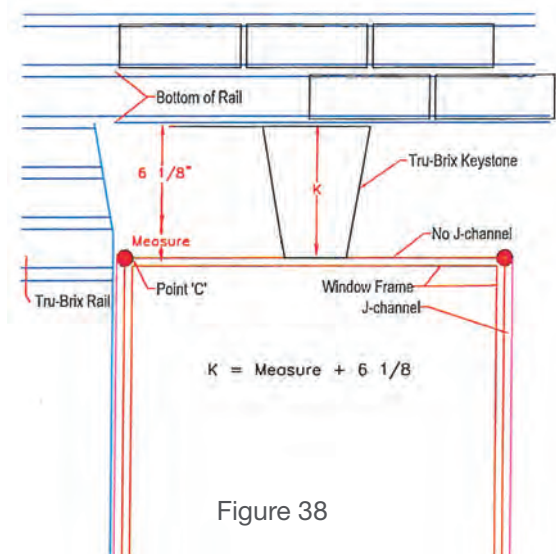

Figure 38
- If the coursing does not meet the window head, then the Tru-Brix Arch can be cut to fit the dimensions required. Mark the positions of the rails that will be installed above the window. Measure the distance from the top of the window casing to the bottom of the rail above the arch. Subtract 1/8" to determine the exact height of the arch and keystone pieces. See Figure 38. When you finish placing the arch rail pieces, you will cut the pieces to this dimension. Cut only the tops of the arch pieces and keystone, because the bottoms may be exposed to view and should remain finished.